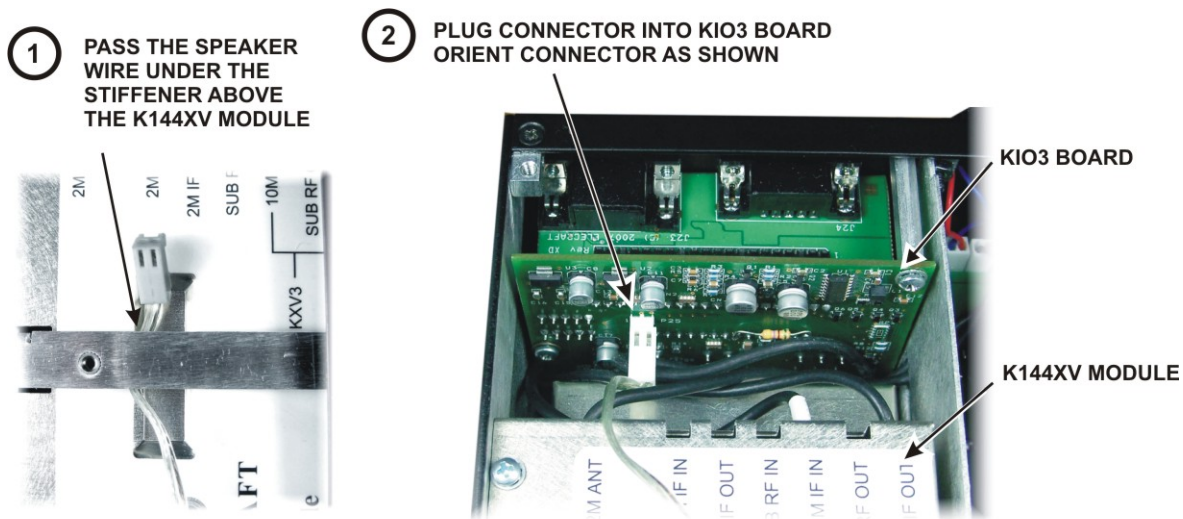

Figure 10. Connecting the Speaker Cable.
- ☐ Hold the top cover above the K3 and route the speaker wire under the stiffener bar. If you have the K144XV 2-meter option installed, route the speaker cable under the stiffener bar at the depression in the top of the K144XV module as shown in Figure 10. Plug the speaker cable into P25 on the KIO3 board at the left rear of the K3.